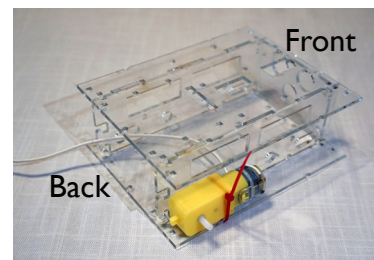

Figure 4
4. Feed the wires for one motor through the smaller round hole near the open end of the chassis. (Figure 4)
5. Feed a zip tie through the small top hole on the motor, then through the chassis wall, the chassis floor, and around the outside of the motor. By doing this you will secure the motor to the side and bottom in one loop. You may need to connect two zip ties together to make the complete loop, if using short zip ties. (Figure 4)